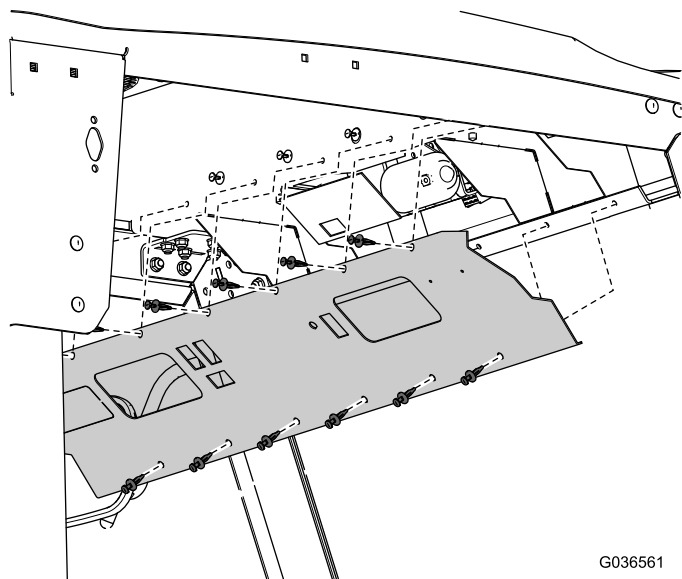

Figura 1
4. Retire o painel frontal (Figura 1).